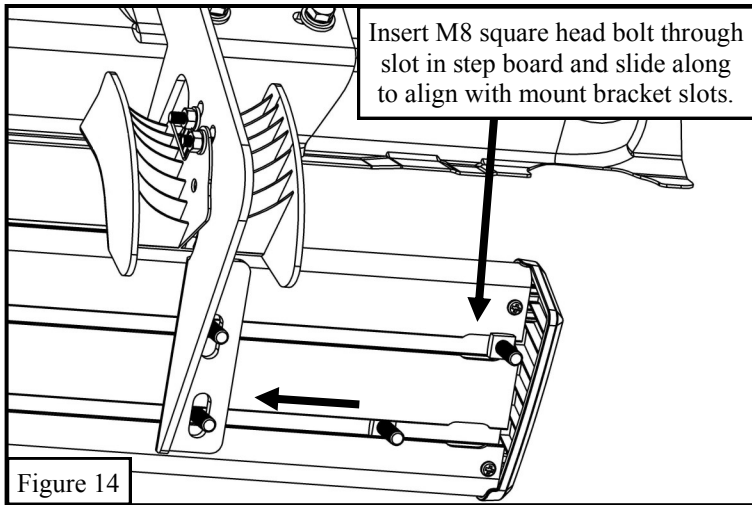

Figure 14
15. **For Part Numbers 28-51045 and 28-51055:** Locate (1) driver side step board (Item 1) and (6) M8 square head bolts (Item 25). Slide the M8 square head bolts through the slots underneath the step board and align with the previously installed mount brackets. Repeat for passenger side. See **Figure 14**.